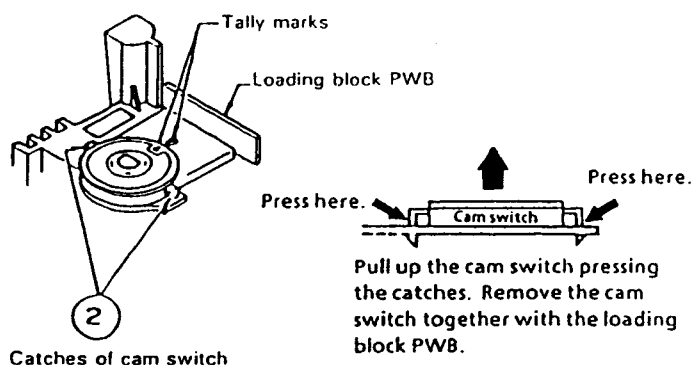

Figure 1-70.
1. Unsolder the leads ① from the loading motor.
2. Unlock the left and right catches ② of the cam switch and loading block PWB. Take out the cam switch and loading block PWB (See Figure 1-70).